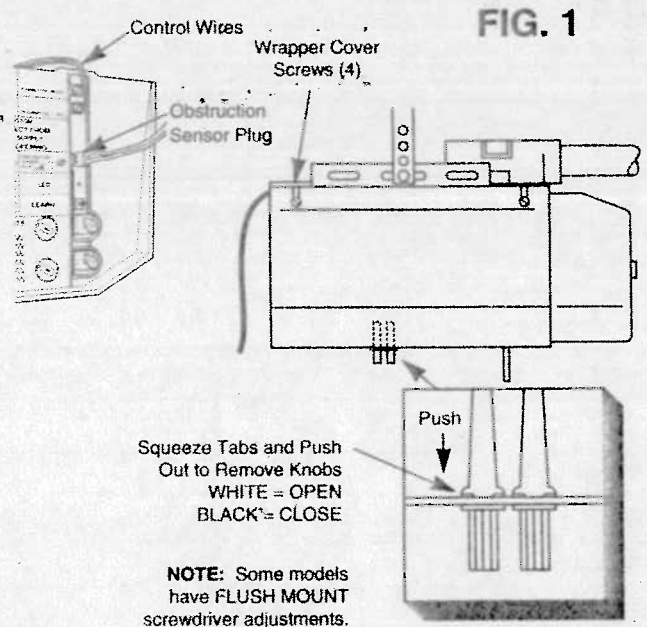

FIG. 1
- A. Disconnect control wires from screw terminals on back of opener. Unplug obstruction sensor from 2-prong plug. Loosen the four wrapper cover screws and remove cover from opener. See Fig. 1.